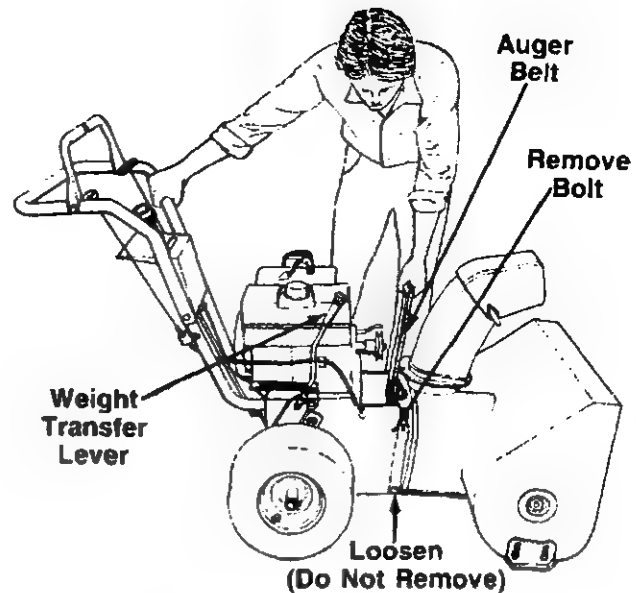

FIGURE 24.
- b. Using a $\frac{9}{16}$ " wrench, remove the top bolts which attach the auger housing to the frame assembly. Loosen (do not remove) the bottom bolts. See figure 24.